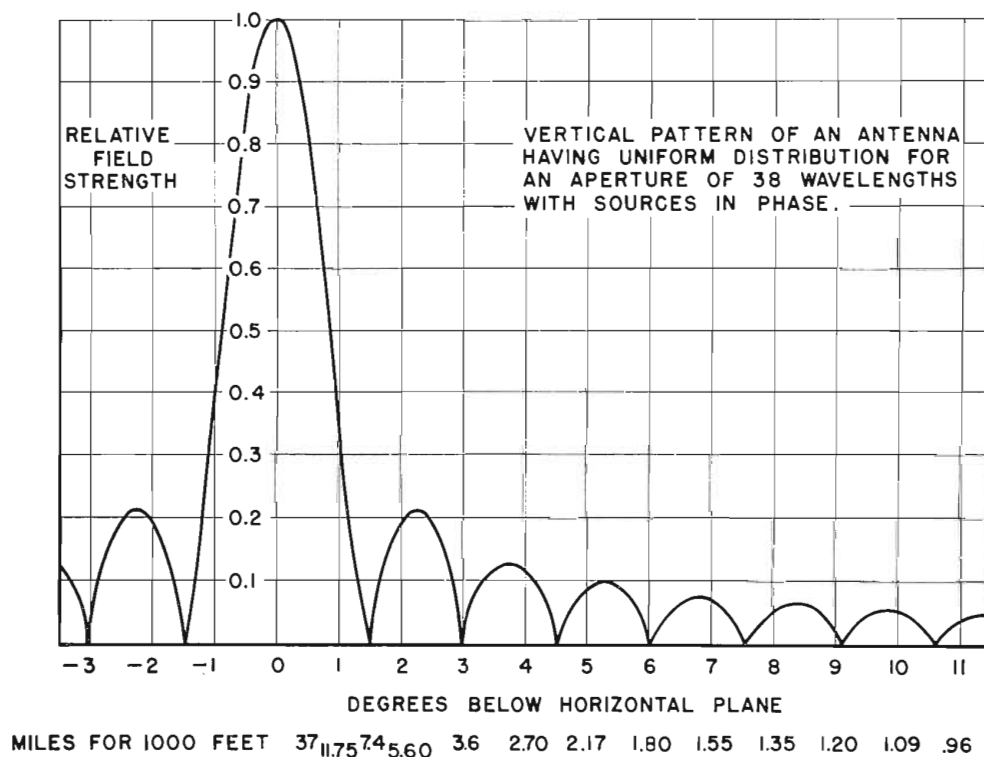

FIG. 3. This shows the vertical pattern for an antenna having uniform distribution and all sources in phase for an aperture of 38 wavelengths.
For antennas having a higher gain, some positive means of eliminating pattern nulls are necessary. Consider, for instance, a calculated vertical pattern of an antenna with a gain of 36, shown in Fig. 3. If this antenna were placed on a tower 1000 feet above flat earth, low-field-intensity areas would occur about every 1½ miles up to 7.4 miles from the base of the tower. These low-field-intensity areas will be highly detrimental to coverage since the amount of fill which provides an adequate field intensity at one mile will usually not provide an adequate field intensity much beyond this point. If the null occurs in terrain where buildings or hills beyond the null are illuminated with a higher-field intensity, the reflected energy from these buildings or hills into the null area will cause echoes or ghosts in the picture.
The general trend in antenna gain has been upward. The reason for this is primarily an economic one, since in general the cost of the transmitter plus the antenna to achieve a given effective radiated power is less when a higher-gain antenna is used. There are other factors such as terrain and ratio of transmitter power to antenna gain that must enter into this choice. As can be seen from Fig. 3, some special means must be used in a high-gain antenna so that it will produce a substantially uniform field strength over the service area. Some of these means are:
FIG. 3. Control room rack equipment showing (left to right): (1) video and audio patching and distribution; (2) synchronizing equipment and pulse distribution; (3) TK-41 rack equipment; (4) TK-45 rack equipment; (5) TK-26 rack equipment and (6) test equipment rack.